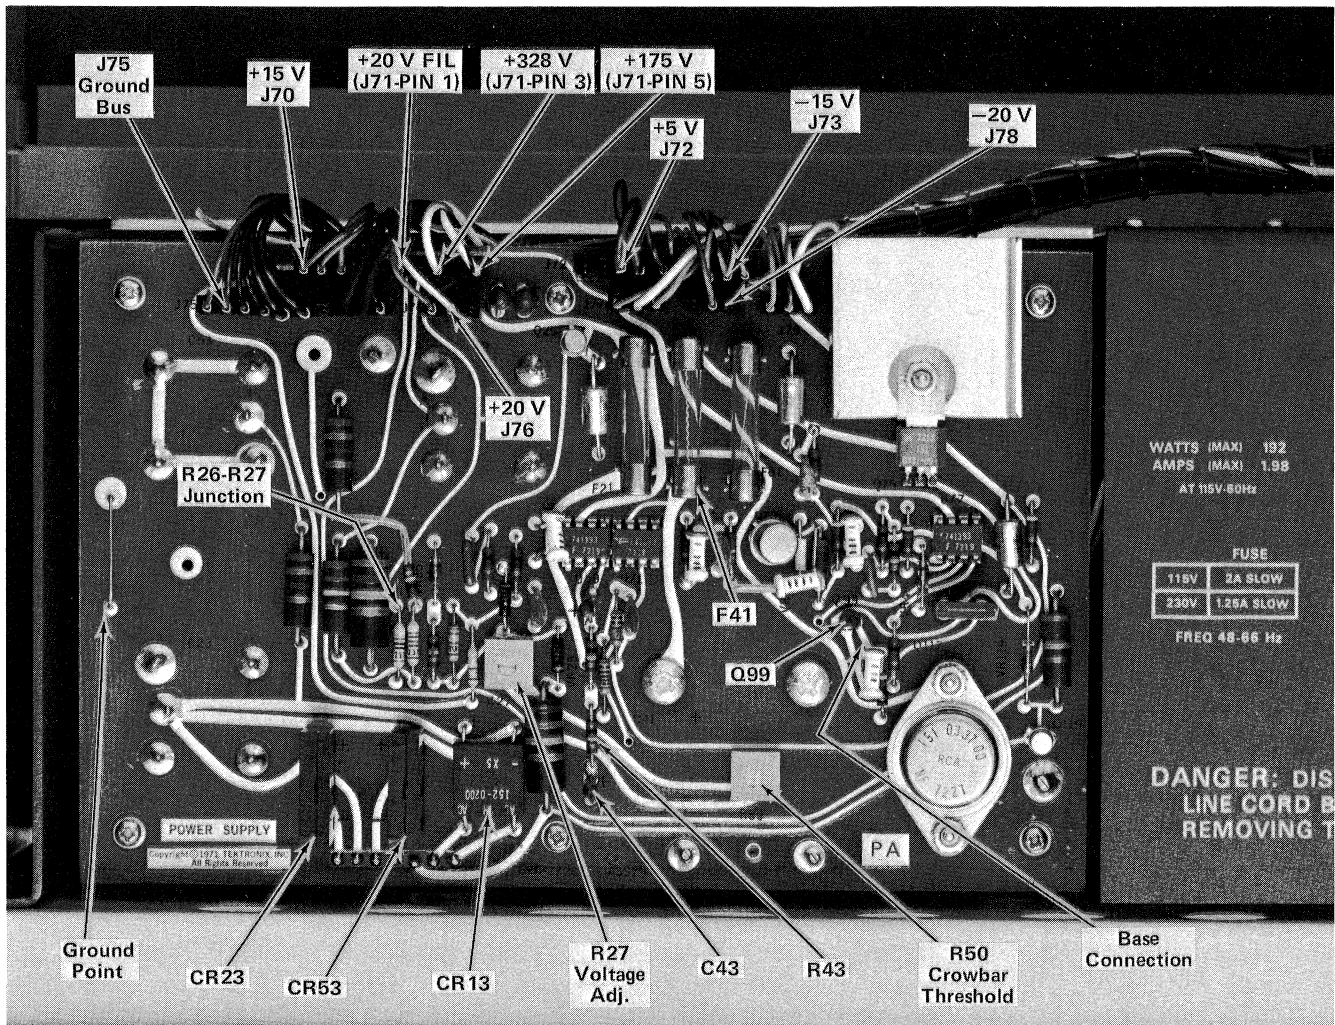

Fig. 4-5. Power Supply Adjustments and Test Points.
- c. Connect the voltmeter reference lead to the ground point shown in Fig. 4-5.
- d. Using a voltmeter which has .05% or better accuracy at 15 V, adjust R27 to obtain +15.000 V at the +15 V test point. Adjustment and test point locations are shown in Fig. 4-5.
e. Measure the various power supply voltages as listed in Table 4-1. Test points are shown in Fig. 4-5. Record all voltages in Table 4-2. (Make duplicate copies of Table 4-2 for future use.)
a. Check the voltage at the base of Q99 for 4.8 V. Adjust R50 as necessary to obtain that value. See Fig. 4-5 for component locations.
(1) Using a shorting strap, momentarily connect the R26-R27 junction to the R43-C43 junction, expecting a
flash from F41. See Fig. 4-5 for locations. The voltage at the +5 V test point indicated in Fig. 4-5 should drop to 0 V.